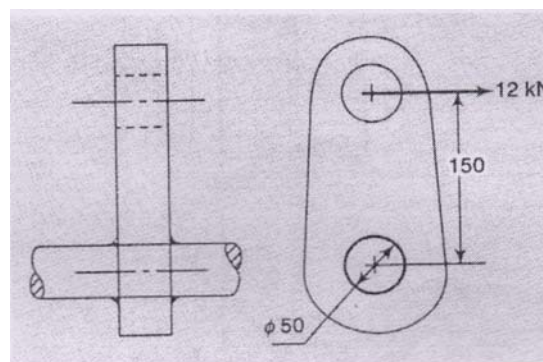

Figure 5
- b) Determine the torsional stress in the weldment as shown in figure 5. This is a case where a crank is made of a plate whose one end is welded to a shaft while other end is subjected to a tangential force of 12kN. Take weld thickness = 5mm and overload factor =1.2. [8]